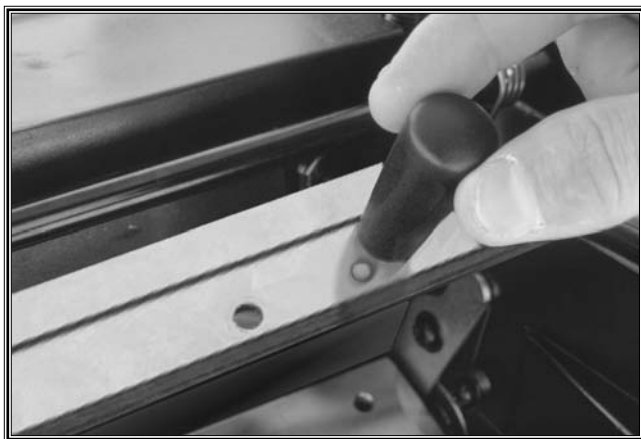

Figure 19. Lift out the locking plate with the magnets.
6. Use the included magnets to lift the locking plate from the cutterhead and out of the planer. See **Figure 19**.